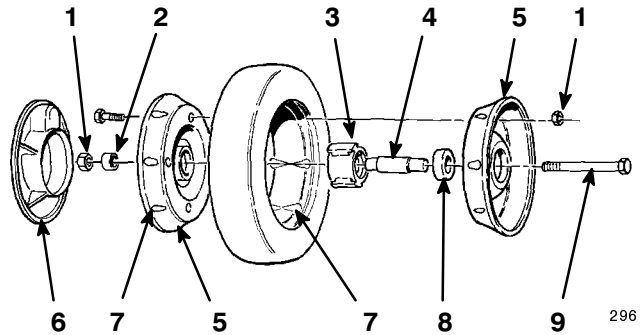

Figure 40
3. Remove the cap screw, the wheel spacer, and the locknut mounting the wheel to the pivot arm (Fig. 40).
4. Separate the wheel halves from the tire by removing four cap screws and four locknuts (Fig. 40).
Note: If you remove the bearings from the bearing/hub assembly, remove them by pressing on the bearing spacer (Fig. 40).
1. Position the tire onto one wheel half, aligning the lugs on each (Fig. 40).
2. Place the bearing/hub assembly into the center hole of the wheel half. Ensure that the legs of the hub are positioned over the flange of the hole (Fig. 40).
3. Place the other wheel half onto the bearing/hub assembly, aligning the wheel and the tire lugs and the mounting holes (Fig. 40).
4. Using two 1/4-20 x 1.50 in. (6 x 38 mm) fully threaded screws or bolts and non-locking nuts, loosely secure the wheel halves together. Mount the screws or bolts in the opposing holes (Fig. 40).
5. Check the alignment of all parts and tighten the screws, alternating from side to side for a uniform fit, until the wheel halves are drawn together (Fig. 40).
6. Install the two cap screws and two locknuts previously removed in the remaining holes in the wheel halves and tighten. Remove the two long screws or bolts and replace them with two cap screws and two locknuts (Fig. 40).
7. Install the wheel to the pivot arm with the cap screws, a spacer, and a locknut. Ensure that the spacer is positioned between the wheel hub and the pivot arm (Fig. 40).